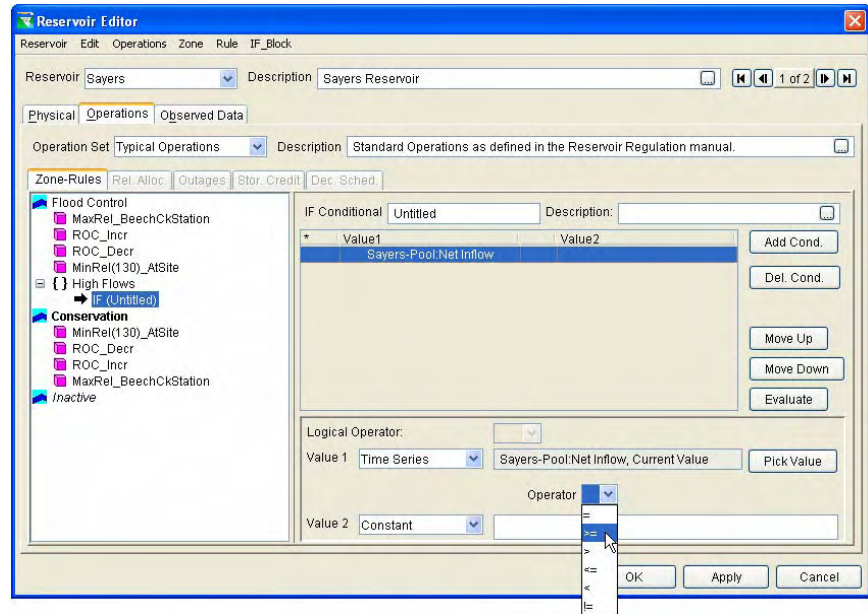

Figure 11.66 Conditional Test Editor – Select Operator
- Next, set the **Operator** to compare **Value 1** against **Value 2**. As shown in Figure 11.66, the operator list includes symbols for: equal to (=); greater than or equal to (>=); greater than (>); less than or equal to (<=); less than (<); and, not equal to (!=).